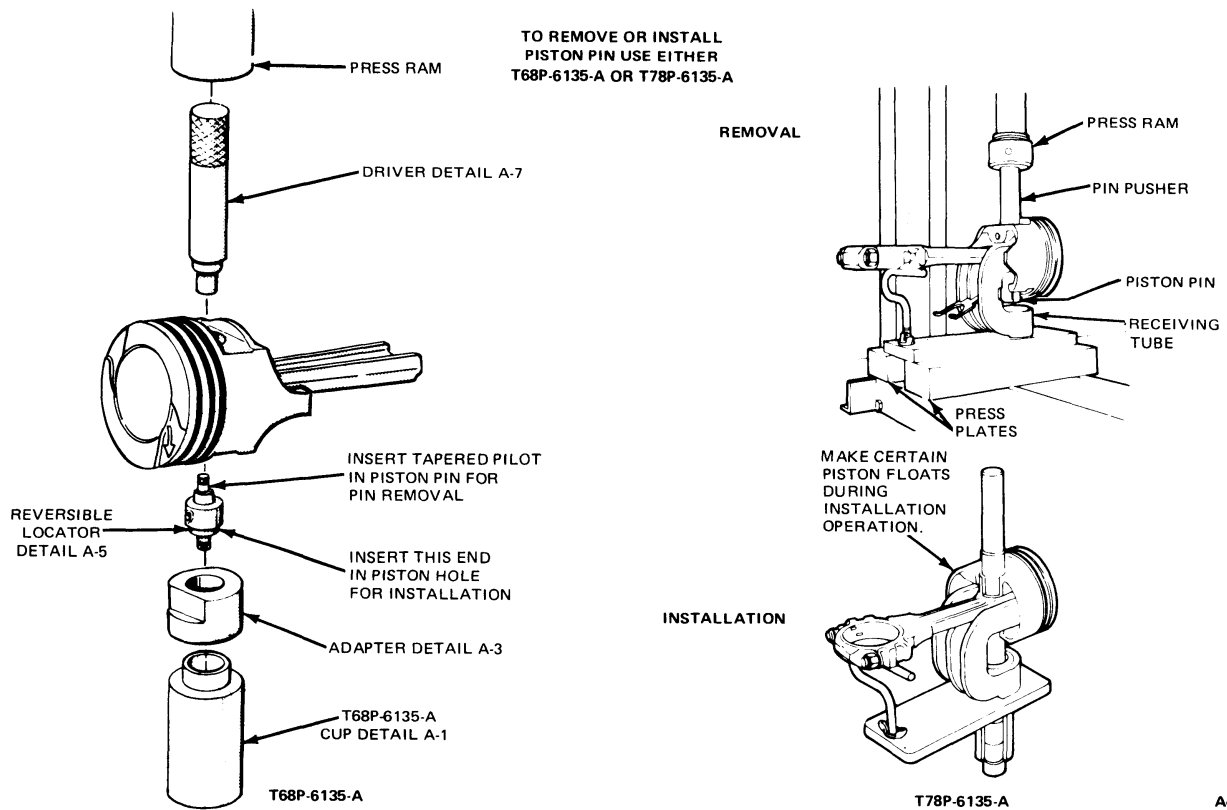

FIG. 40 Removing or Installing Piston Pin
3. Using an arbor press and tool shown in Fig. 40 press the piston pin from the piston and connecting rod. Remove the piston rings.